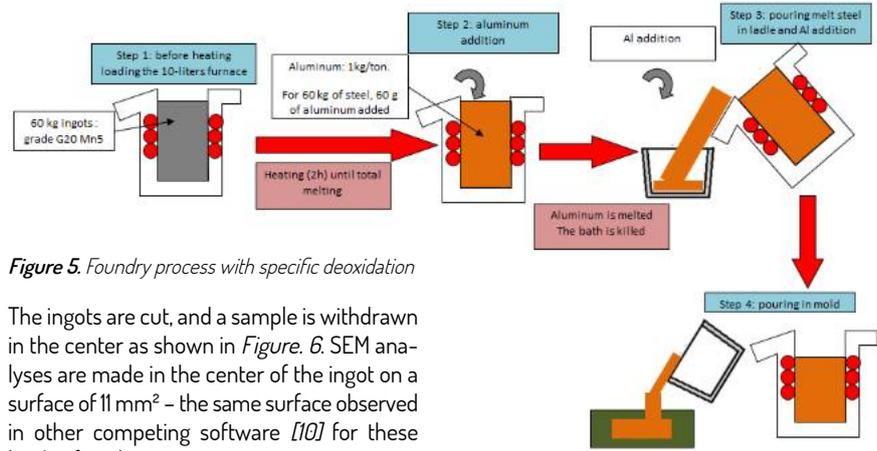

Figure 5. Foundry process with specific deoxidation
Two meltings were made in this study; the protocol of the aluminum addition is described in Table 2. For Melting 1, aluminum was added only in the ladle, so Step 2 from Figure 5 is skipped. For the first pouring, aluminum was placed at the bottom of the ladle, and for the second and third pouring, it was added in the middle of the ladle. For Melting 2, aluminum was added in the furnace (Step 2, Fig. 5) and a second addition was made in the ladle for Tests 5, 6, and 7. For Test 4, no aluminum was added in the ladle, so part of Step 3 was skipped.
For Melting 1, aluminum was added only in the ladle. For the first pouring (1), aluminum was added at the bottom of the ladle, and for the second (2) and third (3) pouring, aluminum was added in the middle of the ladle. If it refers to Figure 5, Step 2 is skipped. No aluminum is added in the furnace.
In the second melting, aluminum is added in the furnace and in the ladle. All steps from Figure 5 are realized.